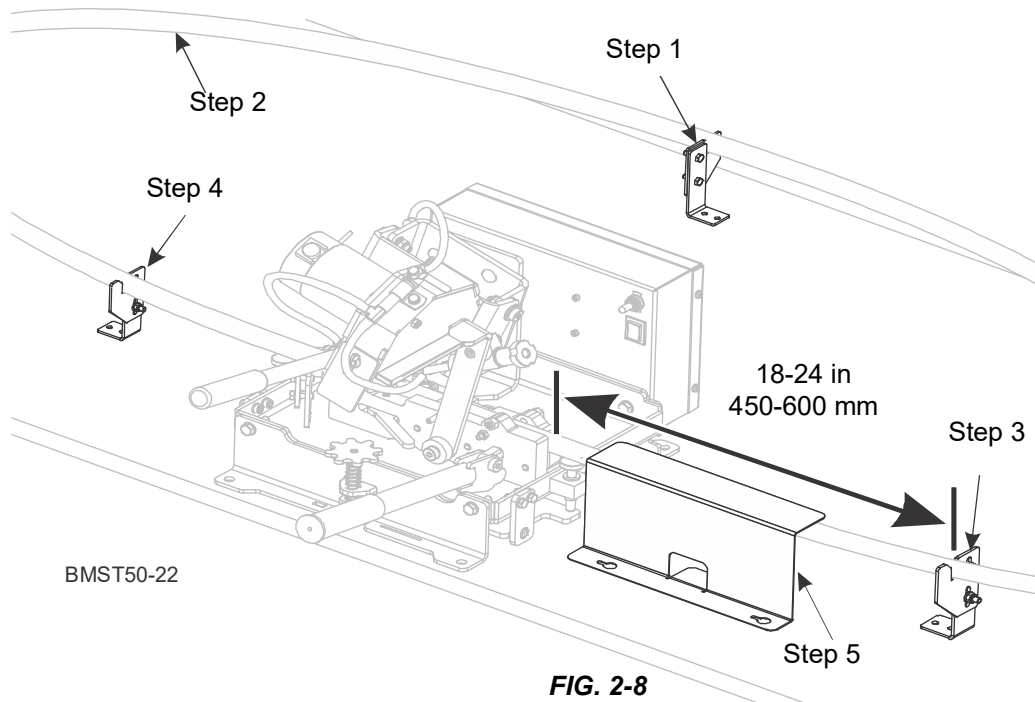

FIG. 2-8
3. Orient the groove so the blade slides through parallel to the sharpener. See step 1 in FIG. 2-8 .
5. Install a blade in the sharpener and rear guide so that the blade forms an oval shape. See step 2 in FIG. 2-8 .
11. Repeat on left side. See step 4 in FIG. 2-8 .
13. Make sure that it is far enough away from the blade that it does not touch at any point. See step 5 in FIG. 2-8 .